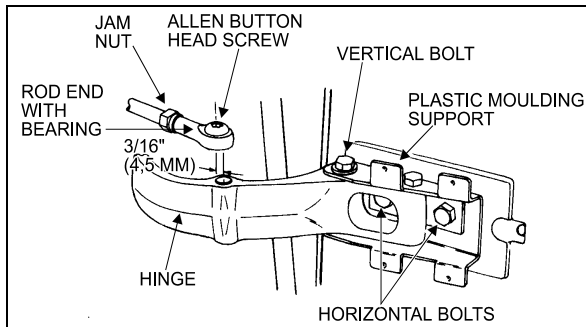

FIGURE 25: UPPER DOOR HINGE 18058
2. Remove the Allen button head screw and the washer retaining the rod end with bearing to the upper hinge. See figure 25.